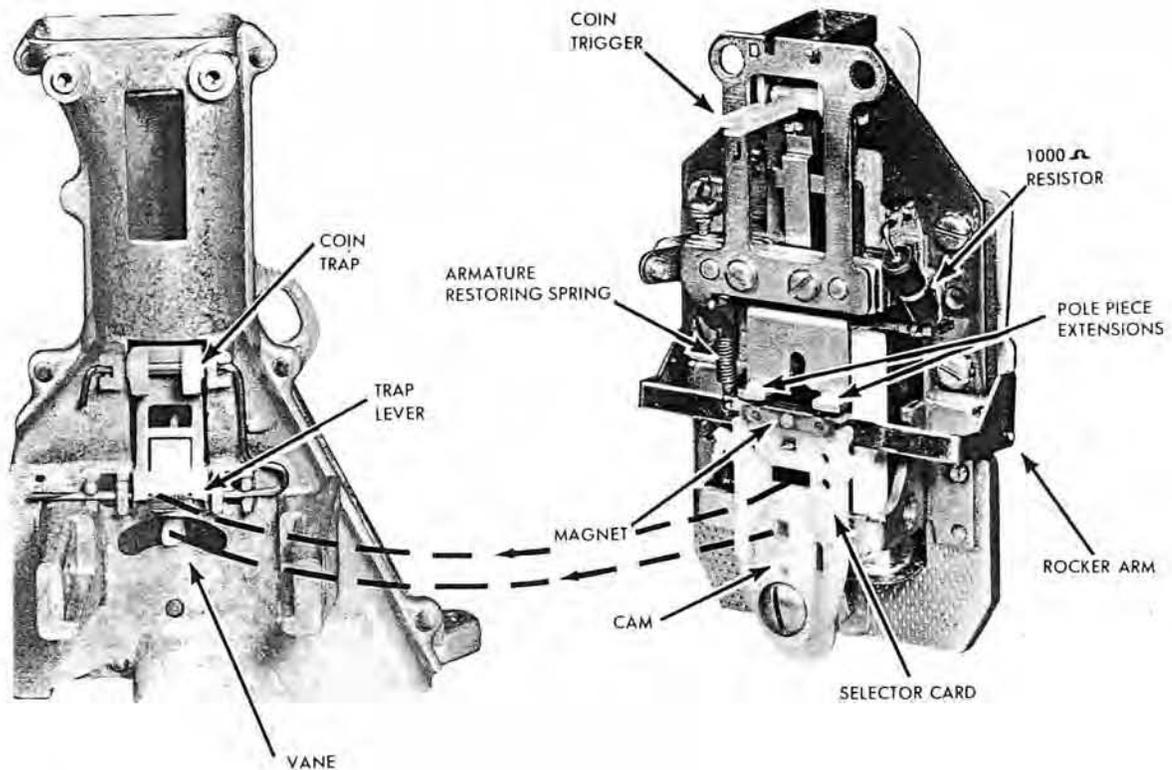

Figure 5. P10E755 Hopper, and Rear View of P10E786 Relay.
- (1) If the relay is being reinstalled after removal, first clean the selector card and pole piece extensions as explained in Paragraph 4.02.
- (2) With a finger inserted in the coin return opening at the left of the hopper, hold the hopper vane vertical.
- (3) Trip the relay trigger and rest the relay mounting brackets in the grooves on the inner surfaces of the projecting arms cast into the front of the hopper base.
- (4) Slide the relay back, guiding the trigger into the hopper slot, until the tab of the trap lever barely engages the slot in the selector card (see Figure 5).
- (5) Aligning the vane as necessary, slide the relay farther back so that the stem of the vane engages the hole in the relay cam.
- (6) Check to be sure that the bosses at the top of the hopper enter the holes in the trigger-support bracket. If distortion of the bracket prevents this, return the relay to the shop for repair and install another one.
- (7) Align the holes in the relay mounting bracket with the holes in the arms projecting from the hopper, and insert two P10E752 (10-32 x 3/8") slotted hex head machine screws.
- (8) Insert two P10E810 (4-40 x 7/32") external-tooth Sems fasteners through the holes in the trigger-support bracket and into the threaded holes at the top of the hopper.
- (9) Tighten each pair of mounting screws evenly. While tightening the upper screws, check to be sure that the trigger pivot pins have some end play, and are not binding in their bearing holes. If the trigger binds, loosen the upper mounting screws and check again for binding. If the trigger moves freely with the upper mounting screws loose, retighten the screws evenly. If the trigger then binds again, replace the relay.
- (10) Check to be sure that the relay armature, coin trap and hopper vane operate and release without binding. If binding is noted, loosen the lower mounting screws and retighten them evenly. If binding is still evident, replace the relay.
- (11) If no further tests are required, snap the P10E783 styrene cover in place on the trigger support bracket.